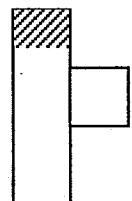

Figure 1
4. Remove the packing from the inside of the heater. Dispose of all packing material properly. You will find packed inside a gas control valve with lock nut and washer, thermostat, thermostat wire, thermopile, pilot line, pilot burner and draft hood tee (see packing list figure 1 page 5). The thermopile has been attached to the gas valve, and the pilot burner, pilot line have been attached to the main burner.